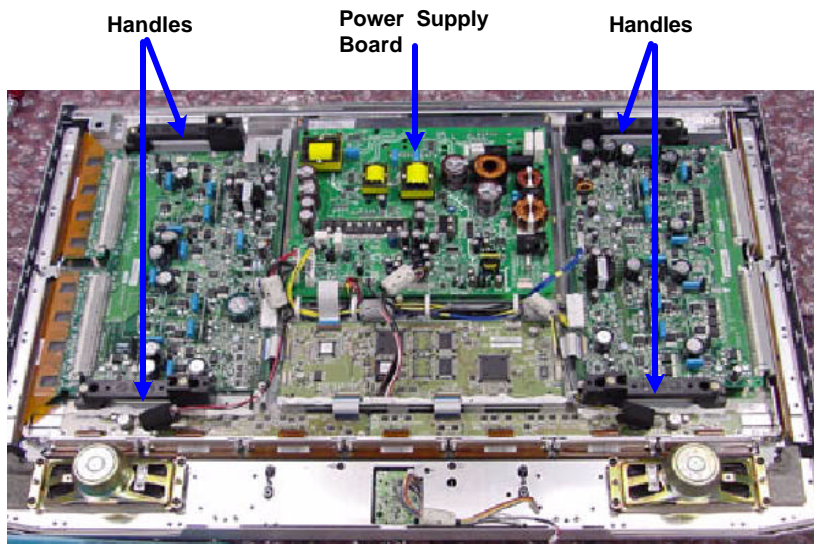

Figure 8-10 - Plasma Screen Handles
- Screw the power supply board onto the Plasma Panel (Figure 8-10).
- Position the Plasma Panel into bezel (Figure 8-10).